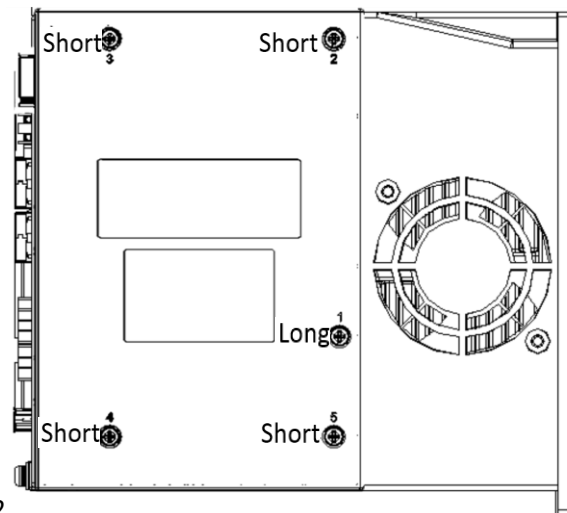

Fig.2
- Lock the long screw (round head nickel-plated screw 3\*10) in hole 1, then lock the 4 short screws (round head nickel-plated screw 3\*5) in hole 2~5 (Fig.2) and the assemble is finished. Torque: 5kgf·cm